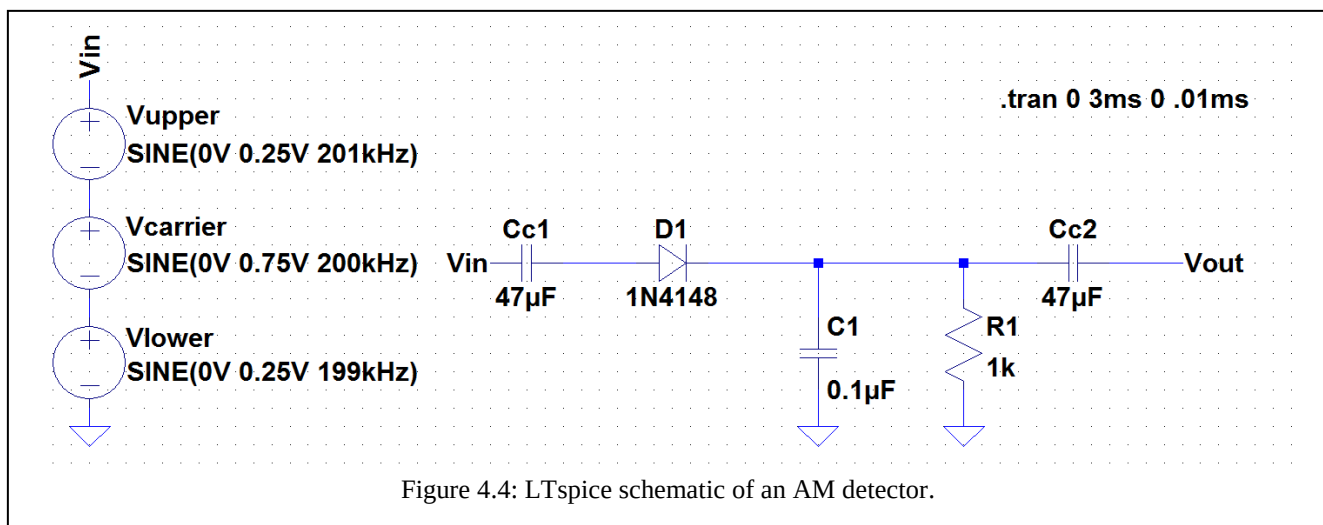
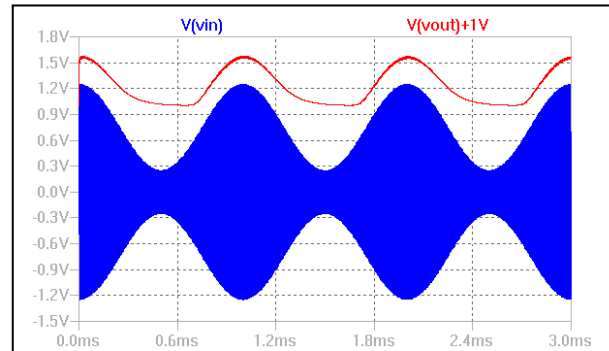

Figure 4.4: LTspice schematic of an AM detector.
Figure 4.5: LTspice simulation of the AM detector of Figure 4.4
- Construct the LTspice **schematic** shown in Figure 4.4. Run a **transient simulation** to duplicate Figure 4.5.
- We want to extract an audio signal from an amplitude modulated signal. In LTspice, an AM signal will require 3 series-connected SINE sources as shown in Figure 4.4. These correspond to the spectral peaks we saw in Chapter 1, Figure 1.3. For a 200 kHz carrier and a 1 kHz modulation, the three sources will be 199 kHz, 200 kHz, and 201 kHz. The respective amplitudes to achieve ~66% modulation can be 0.25V, 0.75V, and 0.25V.
- Initially the Vout signal lies on top of the input signal. We can right-click on the “V(vout)” text in the plot and then add a suitable constant to shift the output to just above the input level, as shown in Figure 4.5.
- Decrease the signal level in the circuit of Figure 4.4 by dividing all signal voltages by 2. **Comment** on what happens to the output signal.
1. Construct a simple detector circuit. This will appear similar to the circuit shown in Figure 4.4, except that the voltage source will be your generator (set for an AM signal in step 2). To begin, let D_1 be a D1N4148, $R_1 = 1\text{ k}\Omega$, and $C_1 = 0.1\text{ }\mu\text{F}$ (labeled 104M).